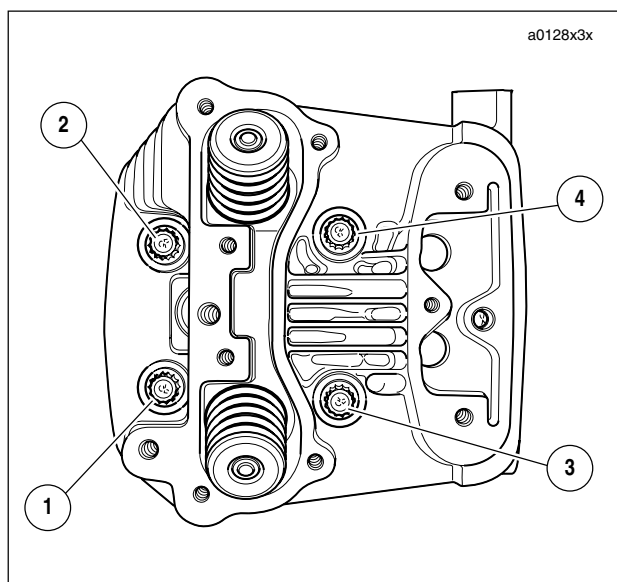

Figure 3-66. Head Screw Loosening/Tightening Sequence
7. See Figure 3-66. Always start with screw numbered one, as shown. In increasing numerical sequence (i.e. – 1, 2, 3 and 4):